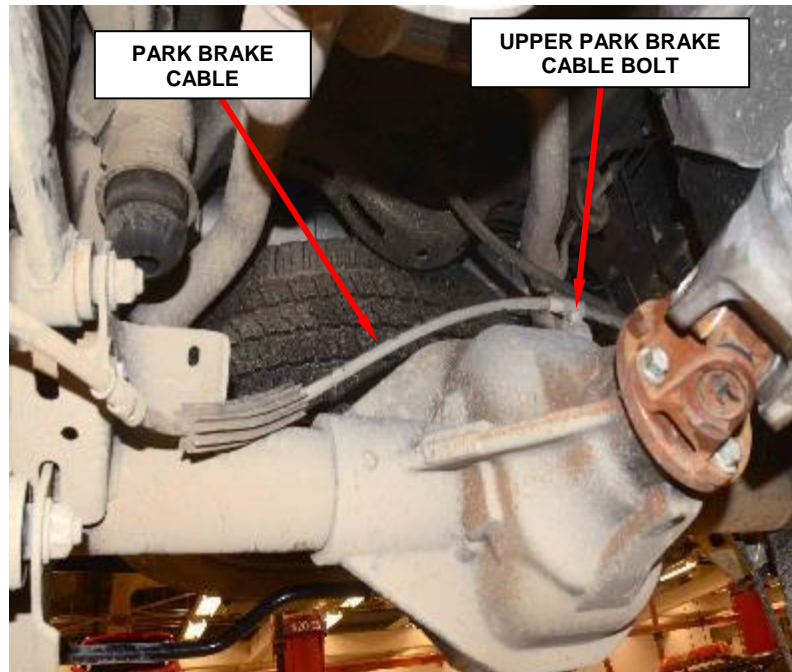

Figure 11 – Park Brake Cable Bolt
12. Remove and save the upper park brake cable bolt from the rear axle (Figure 11).